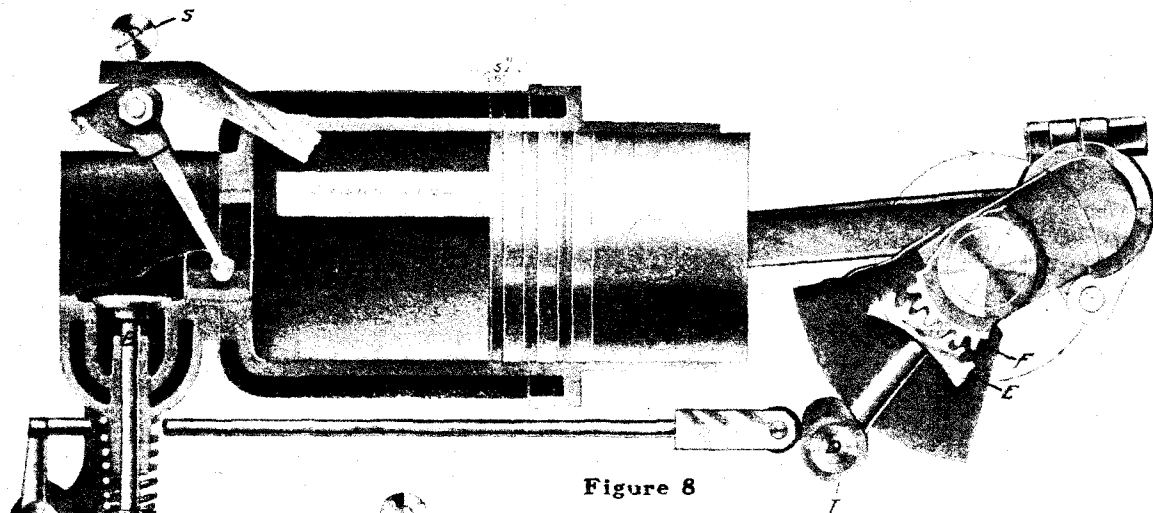

Figure 8
The piston, traveling as indicated by the arrow, compresses the charge, which is ignited at or before the end of this stroke by the spark plug (see electrical explanation), and drives the piston forward to the position as in Fig. 8.
Fig. 8 illustrates the end of the third or working stroke of the cycle where the exhaust valve commences to open  $5/16$  inch before the center. During the fourth or exhaust stroke the gases are expelled from the cylinder through the valve (B). The exhaust valve (B) is operated by the cam (I) which pushes the exhaust rocker arm (J) and lifts the exhaust valve (B).
Next insert a rule allowing it to bear firmly on the piston. Without removing the measuring device move the fly wheel forward and note the distance the rule has traveled. This, on a new engine would be  $5/16$  of an inch (as shown in Fig. 8, page 17), but if the engine had been running for some time the valves would be expected to be slightly out